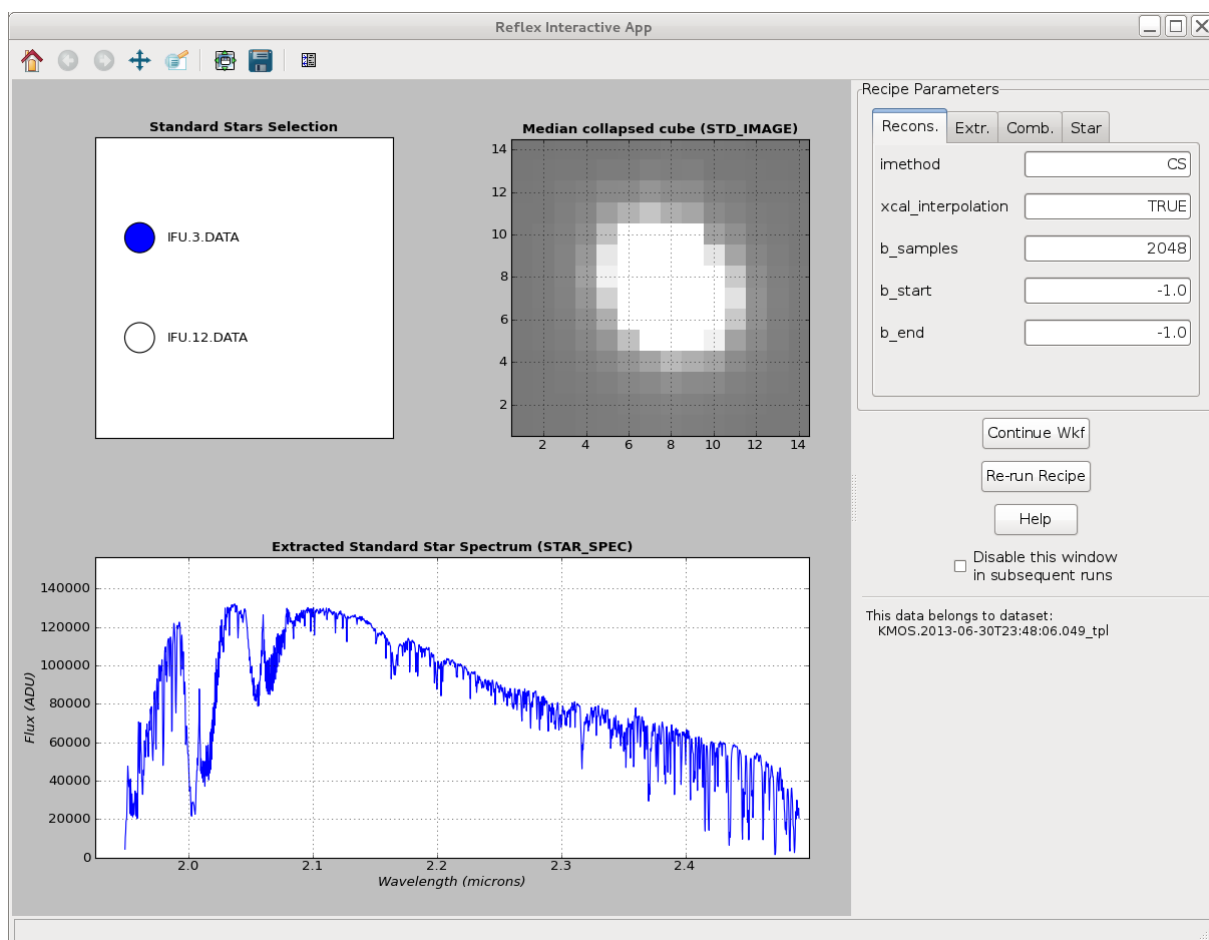

Figure 9.2: The interactive window for the Telluric Standard Star Calibration actor as displayed for the KMOS tutorial data set..
4. **Telluric Standard Star Calibration:** Figure 9.2 shows the interactive window that will pop-up at the end of the execution of the *kmo\_std\_star* pipeline routine. The image panel at the top-right of the window shows the median collapsed data cube (pipeline product: *STD\_IMAGE*) For a single IFU. The total number of IFU's dedicated to observing a telluric standard star are listed to the left of this image and clicking on the circle will display the standard star from another IFU. For the tutorial data set only IFU #3 and IFU #12 observed standard stars.